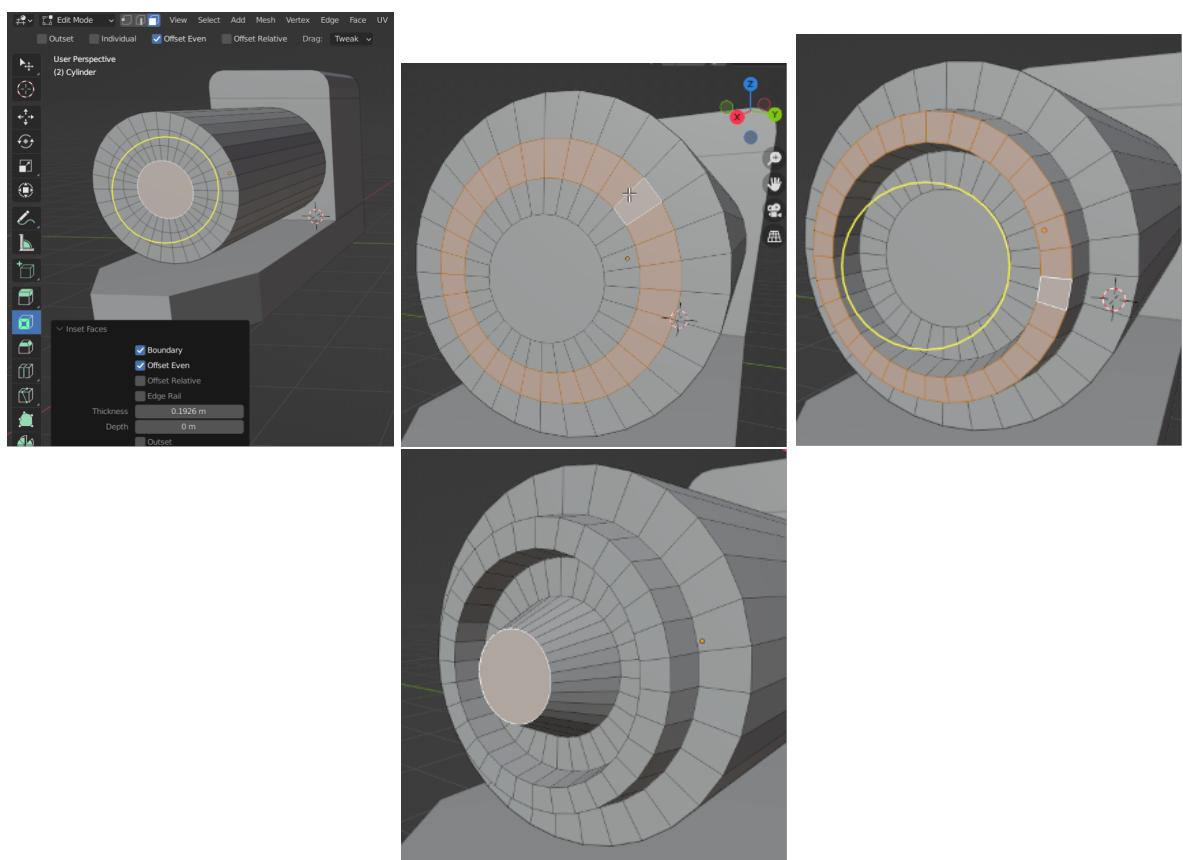

Figure 1.27: Modeling of the front of the smokebox.
- (a) In *Object Mode*, add a new cylinder object. Rotate it around OY axis and scale accordingly (symmetrically with respect to the YZ plane). Mount it to the cabin wall (use *Snaps* with the *Snap to/Face* option) (see Fig.1.27).
- (b) In *Edit Mode*, on the front face of the cylinder, inset twice to create three rings made of polygons with a circle in the center (see Fig.1.27). Mark the inner ring and *Inset with extrusion*. The ring made of polygons can be selected by holding down [CTRL+ALT] and clicking on one polygon (closer to its longer edge). Repeat the *Inset with extrusion* for the outer ring.